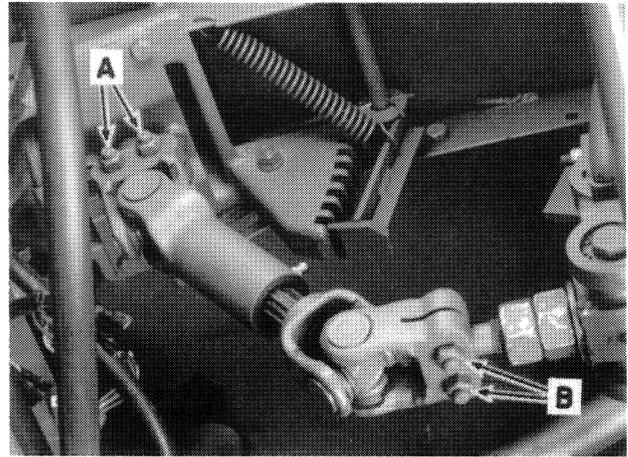

FIGURE 2
2. Remove the telescoping shaft under the cab by removing two cap screws at A and B, Figure 2.
4. Install the shaft with the solid (male) end of the shaft on the steering column shaft. This is reversed from the way it was originally installed and from the way it is pictured in Figure 2.
NOTE: Be sure the steering wheel and the steering shaft do not turn while removing and installing the shaft. Position the U-joints as shown in Figure 2.